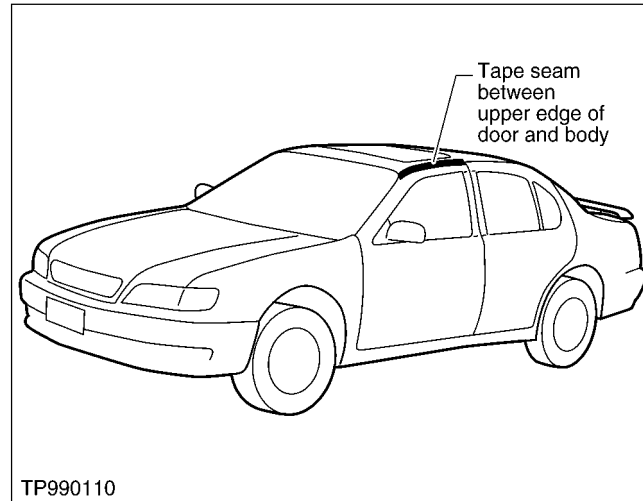

Figure 4. Upper Edge of Door
2. Apply high quality masking tape to cover the seam between the upper edge of the front door and the body (across the weather strip) along the length of the door (see Figure 4).